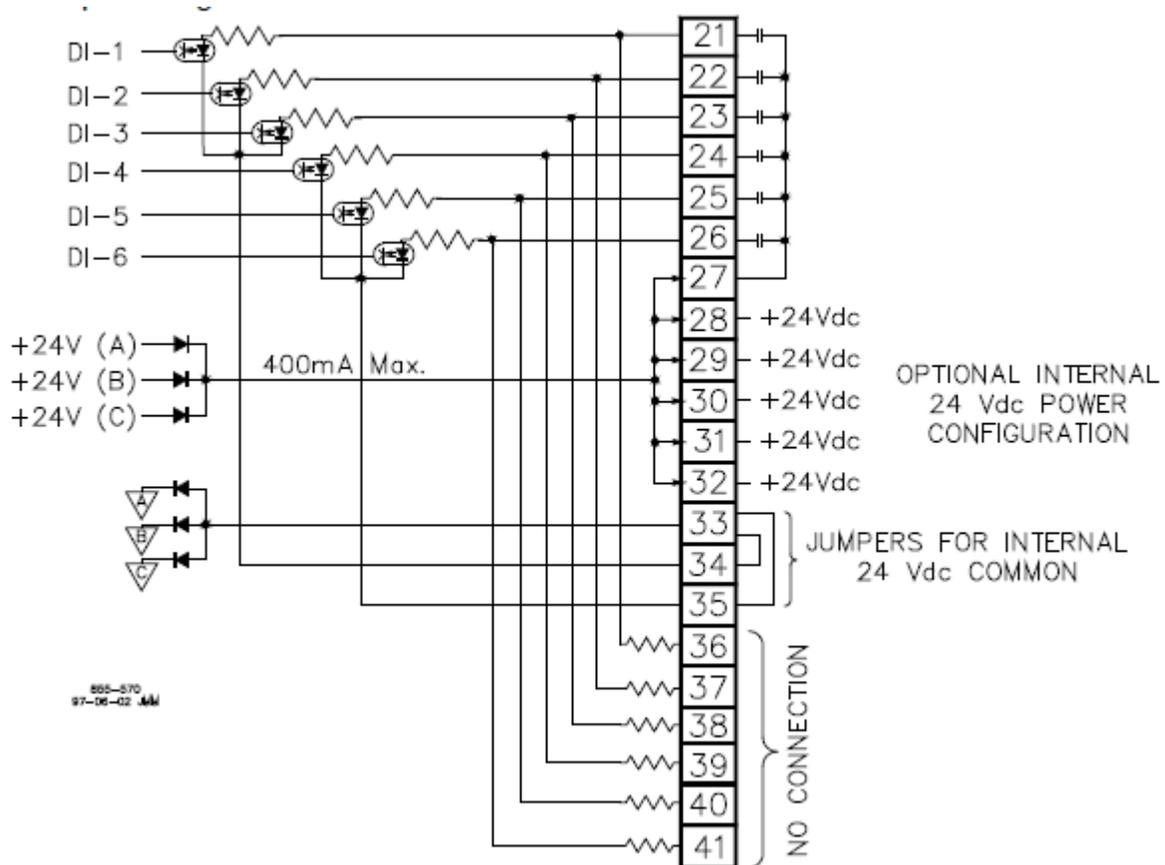

Figure 11-8. Example Discrete Input Wiring using Internal 24 Vdc
- Refer to Figure 11-8 and Appendix E for Contact Input wiring connections to the FTMs. Section 7.2 of manual 26167V1 provides details of using external power or high voltage contacts.
Each relay output can be individually configured to use latent fault detection to identify relay failures without affecting a relay output's state. A fault tolerant relay configuration consists of 6 relays, driven by two discrete outputs from each kernel. The relays are configured in three legs of two relays each. See Figure 11-8. Customer circuit power is connected to one side of the resulting configuration, and customer load to the other side. Field selectable jumpers, located on system FTMs, are provided to allow each output's latent fault detection logic to be compatible with the circuit being interfaced to.